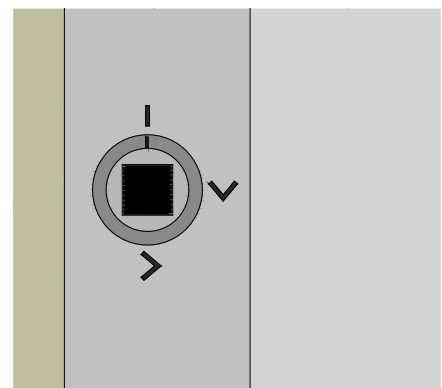

figure 22
- 2) Turn the first cam counterclockwise (**ccw**) using the chuck key until the line on the cam is aligned with the line on the spindle housing as shown in (fig. 22).